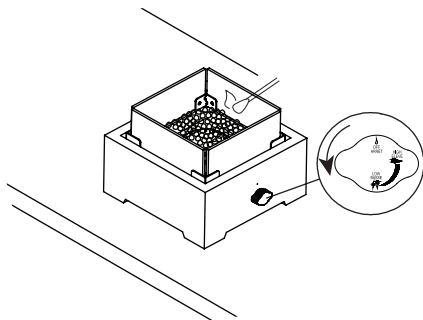

Figure 12
3. Control knob must be in the “OFF” position (Figure 12).